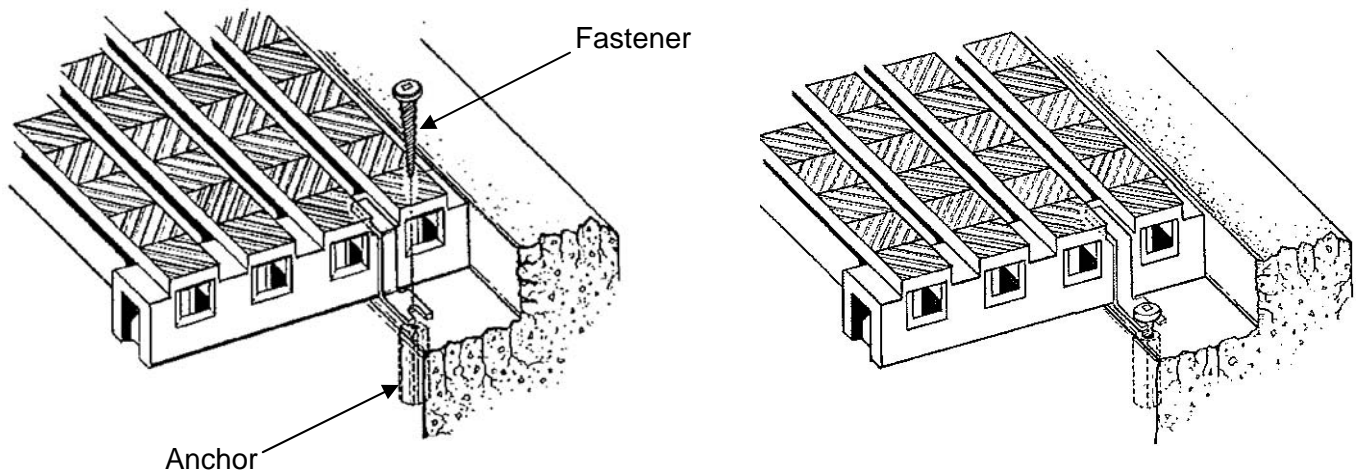

FIGURE 1
5. For concrete gutters, fasten down the grate every 10 feet as shown in **Figure 1**, or as specifications require. Stainless steel gutters require a more aggressive fastening schedule provided by the gutter manufacturer.